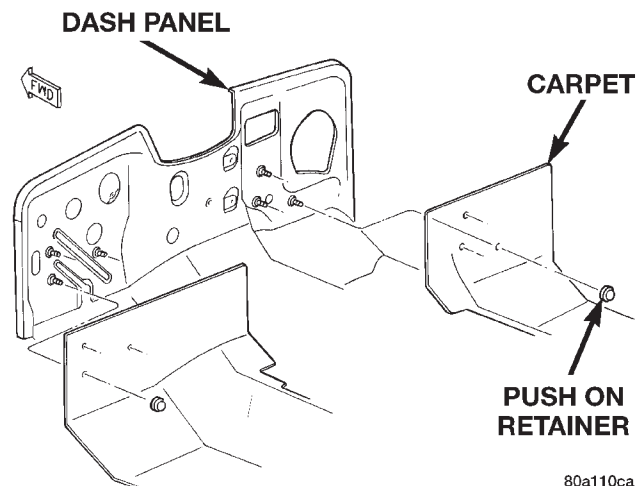

Fig. 67 Front Carpet
(1) Remove the screws attaching the console to the floor pan.
(2) Remove the retainers attaching the carpet to the dash panel (Fig. 67).
(3) Disengage the snaps around the perimeter of the seats.
(4) Remove carpet from the vehicle